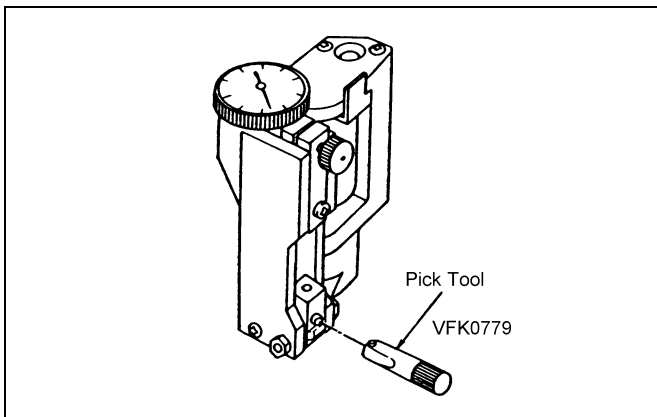

Figure 2 Pick Tool (1)
2. Set the head contact portion of Drum Replacement Tool (VFK0737) to the vertical position using the Pick Tool (VFK0779) as shown in figure 2 and 3.